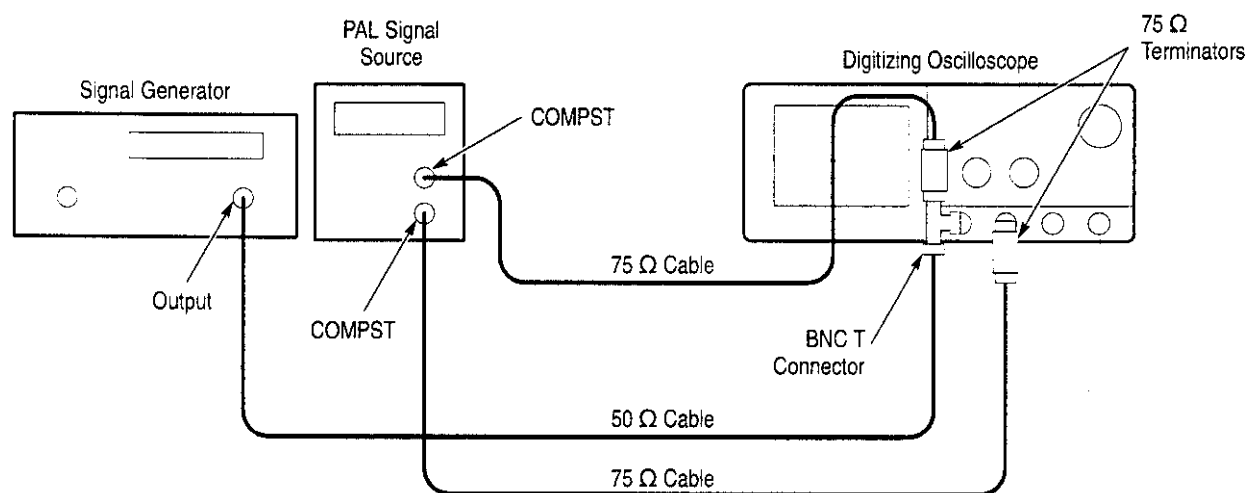

Figure 1-32: Subsequent 60 Hz Rejection Test Hookup
COMPST on the TSG 121) to a 75 Ω cable and a 75 Ω terminator. Connect both signals to the CH1 input through a BNC T. See Figure 1-32.
- Connect another composite signal connector of the PAL signal source (labeled **COMPST** on the TSG 121) through a 75 Ω cable and a 75 Ω terminator to the CH2 input. See Figure 1-32.